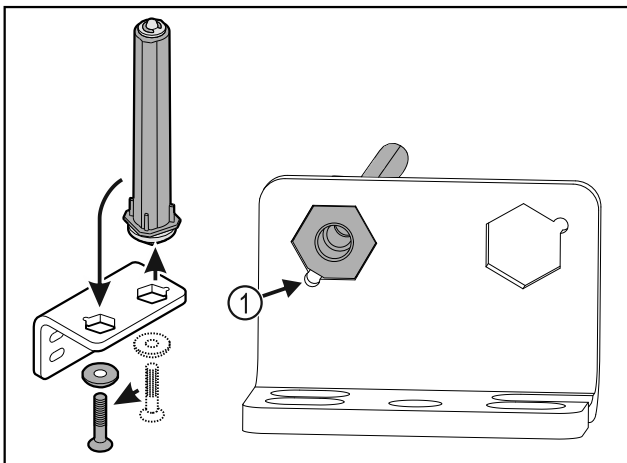

Fig. 36
- Make sure the pin chamfer Fig. 36 (1) faces the round hole when you put it in.